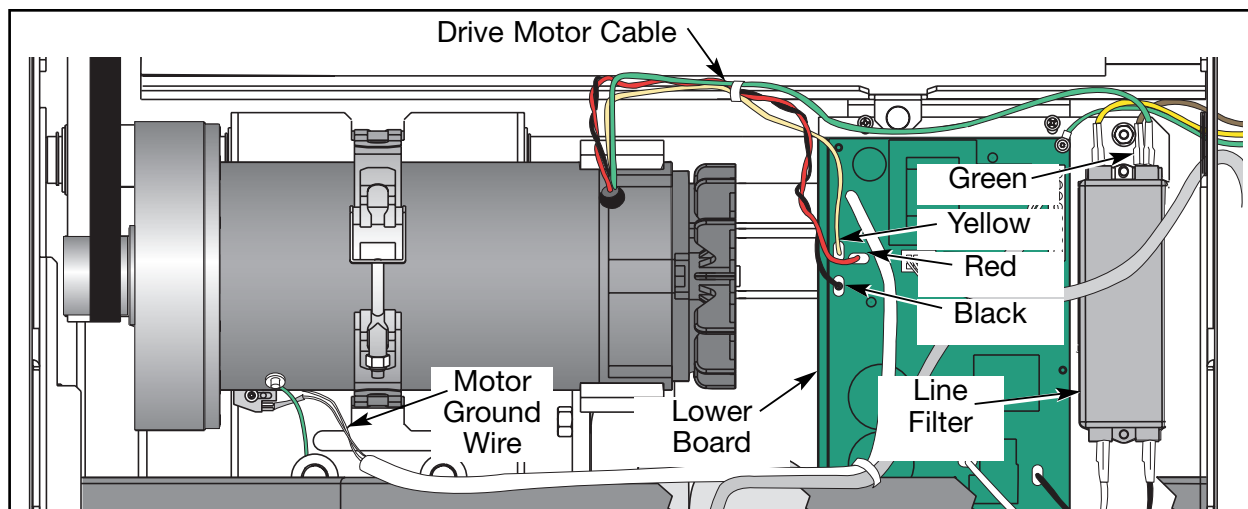

Figure 11
- A. Using a 1/2" socket wrench, remove the screw, split washer, flat washer and motor ground wire from the motor saddle. See Figure 11.
- C. Disconnect the motor cable from the lower board and line filter. **NOTE:** You will disconnect four wires (red, black, yellow and green). See Figure 11. **NOTE:** The motor is now free to move.